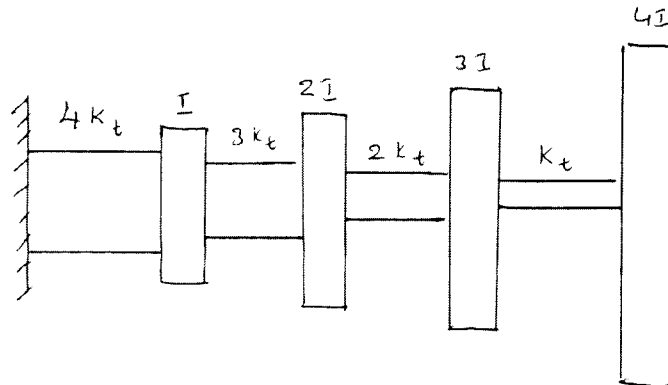

Fig.Q8
- 8 Find all the natural frequencies of the four degree-of-freedom system shown in Fig.Q8 by Holzer's method.